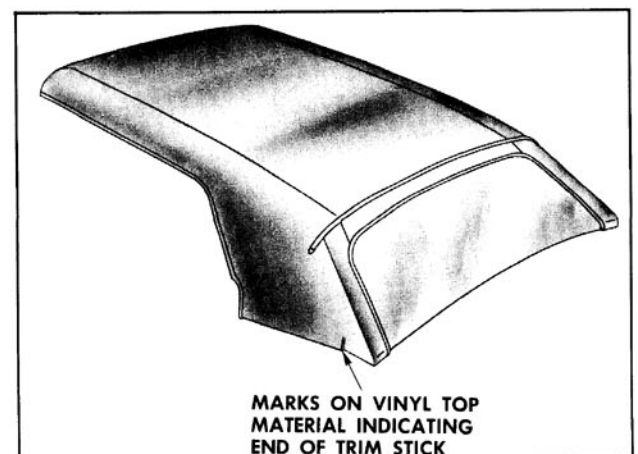

Fig. 16-435 Marking Top Material
14. Using a pencil, mark both ends of rear and rear quarter trim sticks on vinyl surface of top material. (Fig. 16-435) Reference marks for trim sticks should be transferred to new top material when Step 28 of installation procedure is performed.